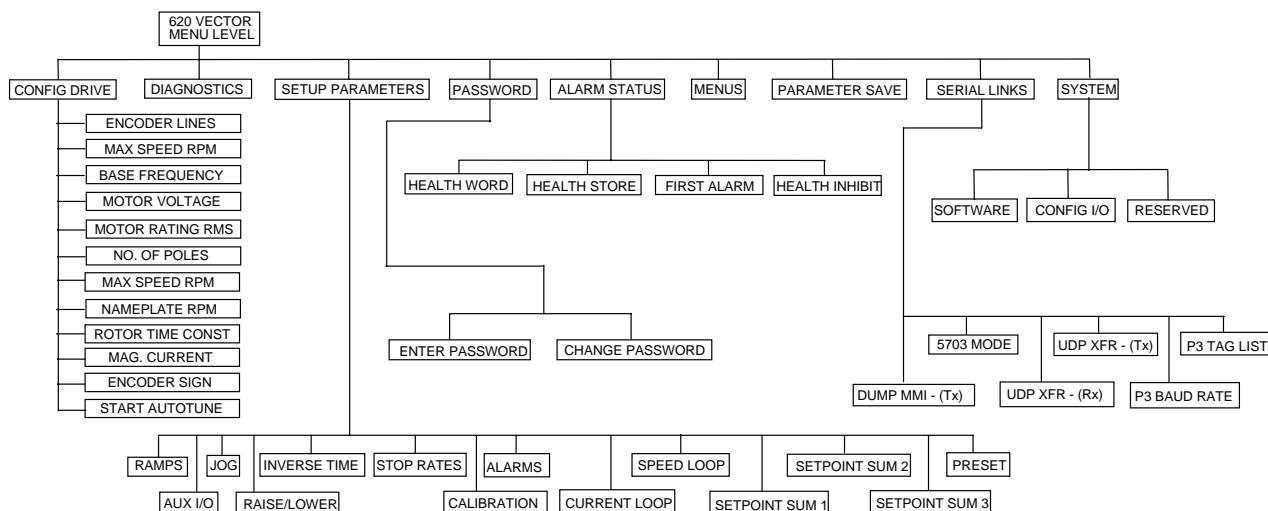

Figure 4.3 - Main Menu Options
The MMI comprises several hundred menu options (shown in Figure 4.3). The and buttons navigate through the menus.
The options available to the user from the main menu are given in Figure 4.3. These options are briefly described in the following paragraphs which include references for further details.
1. Press \textcircled{M} \textcircled{M} . The display will show '**MENU LEVEL / DIAGNOSTICS**'. Pressing the $\textcircled{\Delta}$ and $\textcircled{\nabla}$ buttons will enable you to move around the top level menu. Press $\textcircled{\Delta}$ until the display shows **CONFIGURE DRIVE** (if you miss **CONFIGURE DRIVE** or any other menu item, either use the $\textcircled{\nabla}$ button to get back or keep pressing $\textcircled{\Delta}$ until **CONFIGURE DRIVE** is displayed again). You will be navigating the Initial Setup menus shown at the extreme left of Fig 4.3.